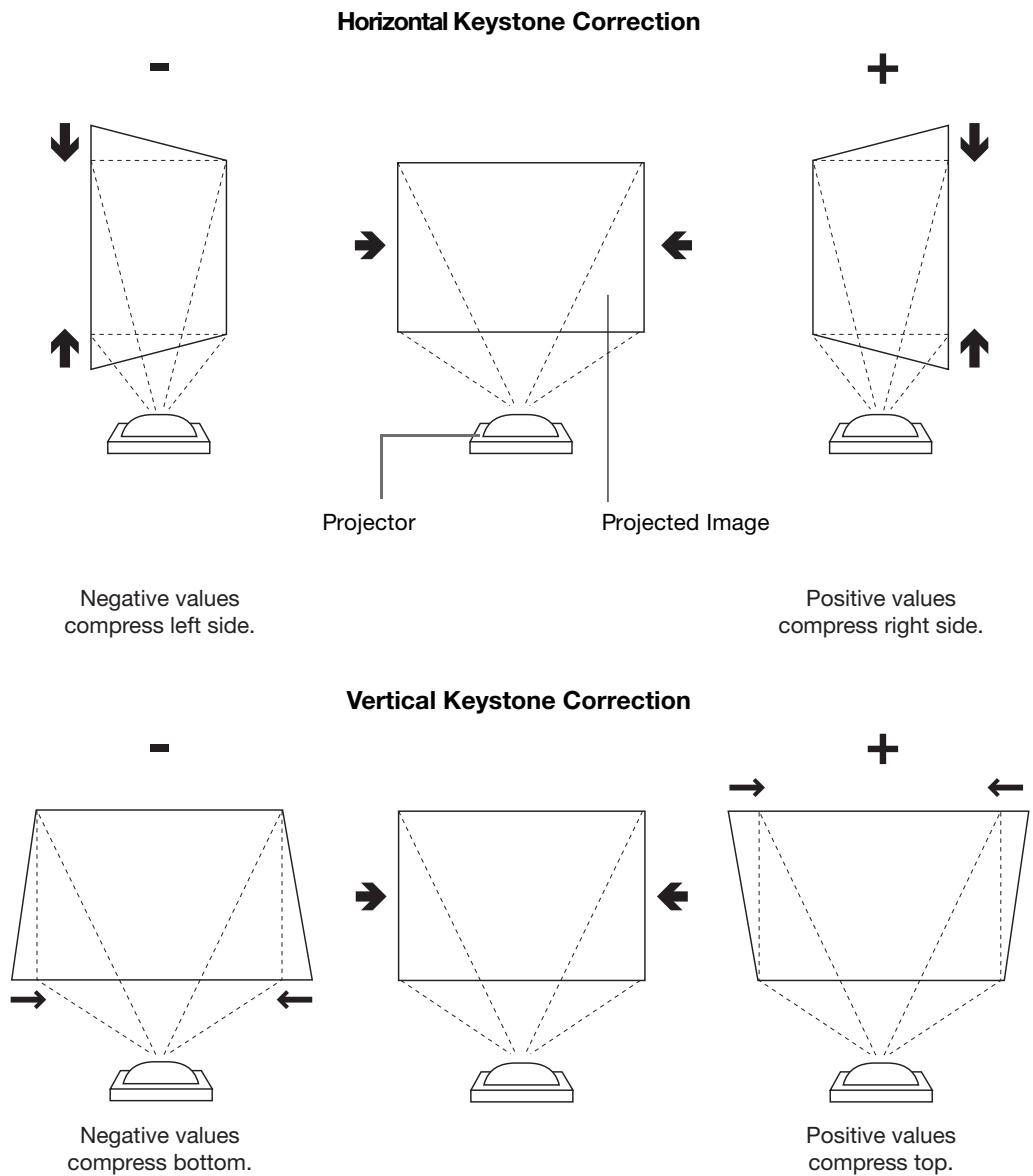

Figure 4-6. Keystone Correction
- **V. Keystone/H. Keystone:** To correct distortion resulting from the angle of projection, select V. Keystone or H. Keystone from the Keystone menu and use the **◀** or **▶** button to make the image rectangular. See Figure 4-6.